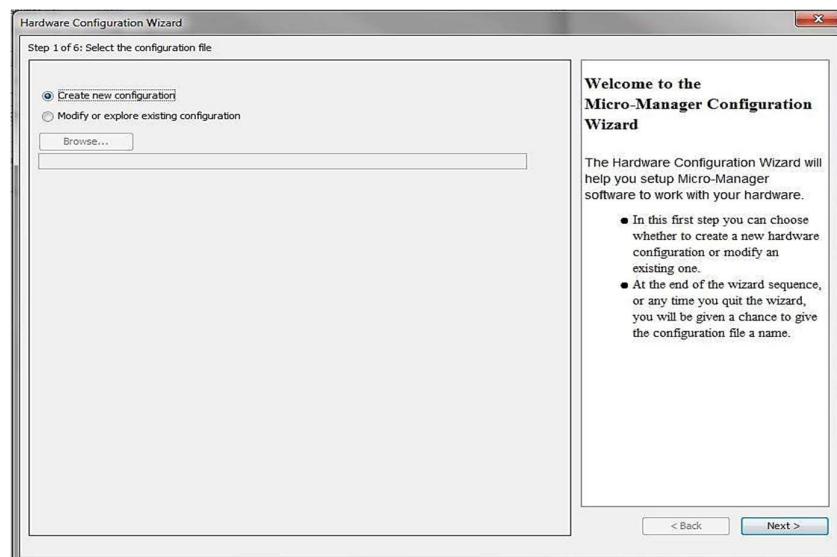
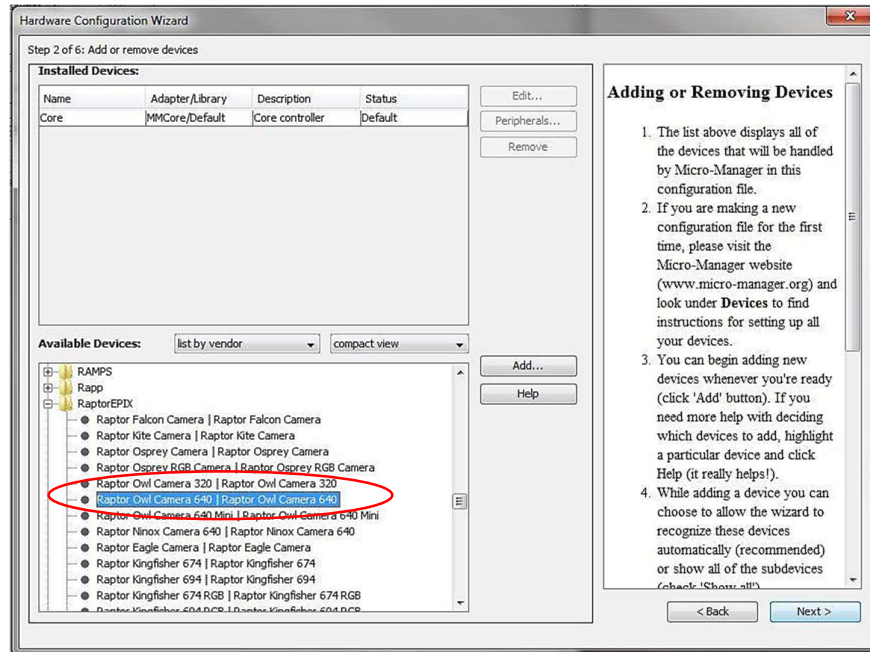

Figure 23: Hardware Configuration Wizard
Figure 24: Add a New Device
2. Create a new configuration (figure 23) then look for the camera driver in the RaptorEPIX folder (shown in Figure 24), now click Next.
3. Continue to click Next until you are faced with the screen shown in Figure 24.